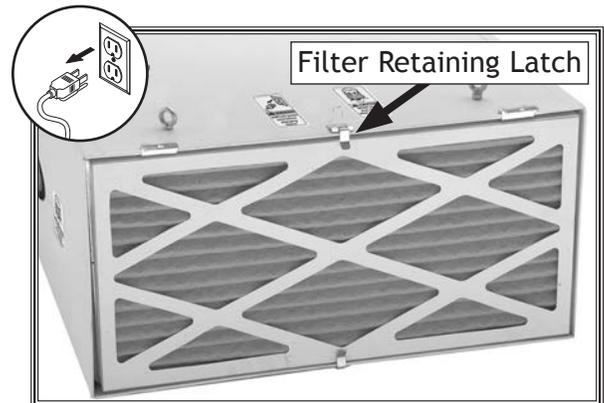

Figure 18. 5-Micron primary filter.
2. Open filter retainer latch and remove primary filter (see **Figure 18**).